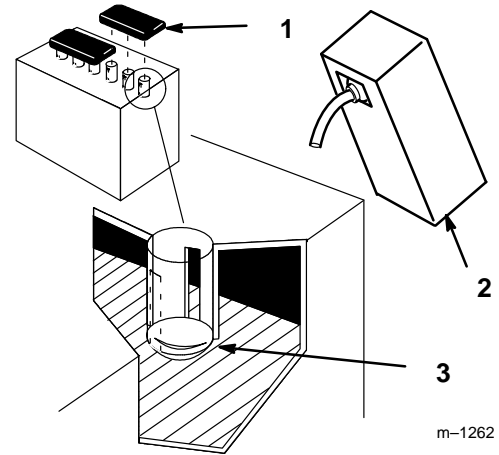

Figure 5
5. Remove filler caps from the battery. Slowly pour electrolyte into each cell until the electrolyte level is up to the lower part of the tube (Fig. 5).
8. Slowly pour electrolyte into each cell until the level is once again up to the lower part of the tube and install covers (Fig. 5).